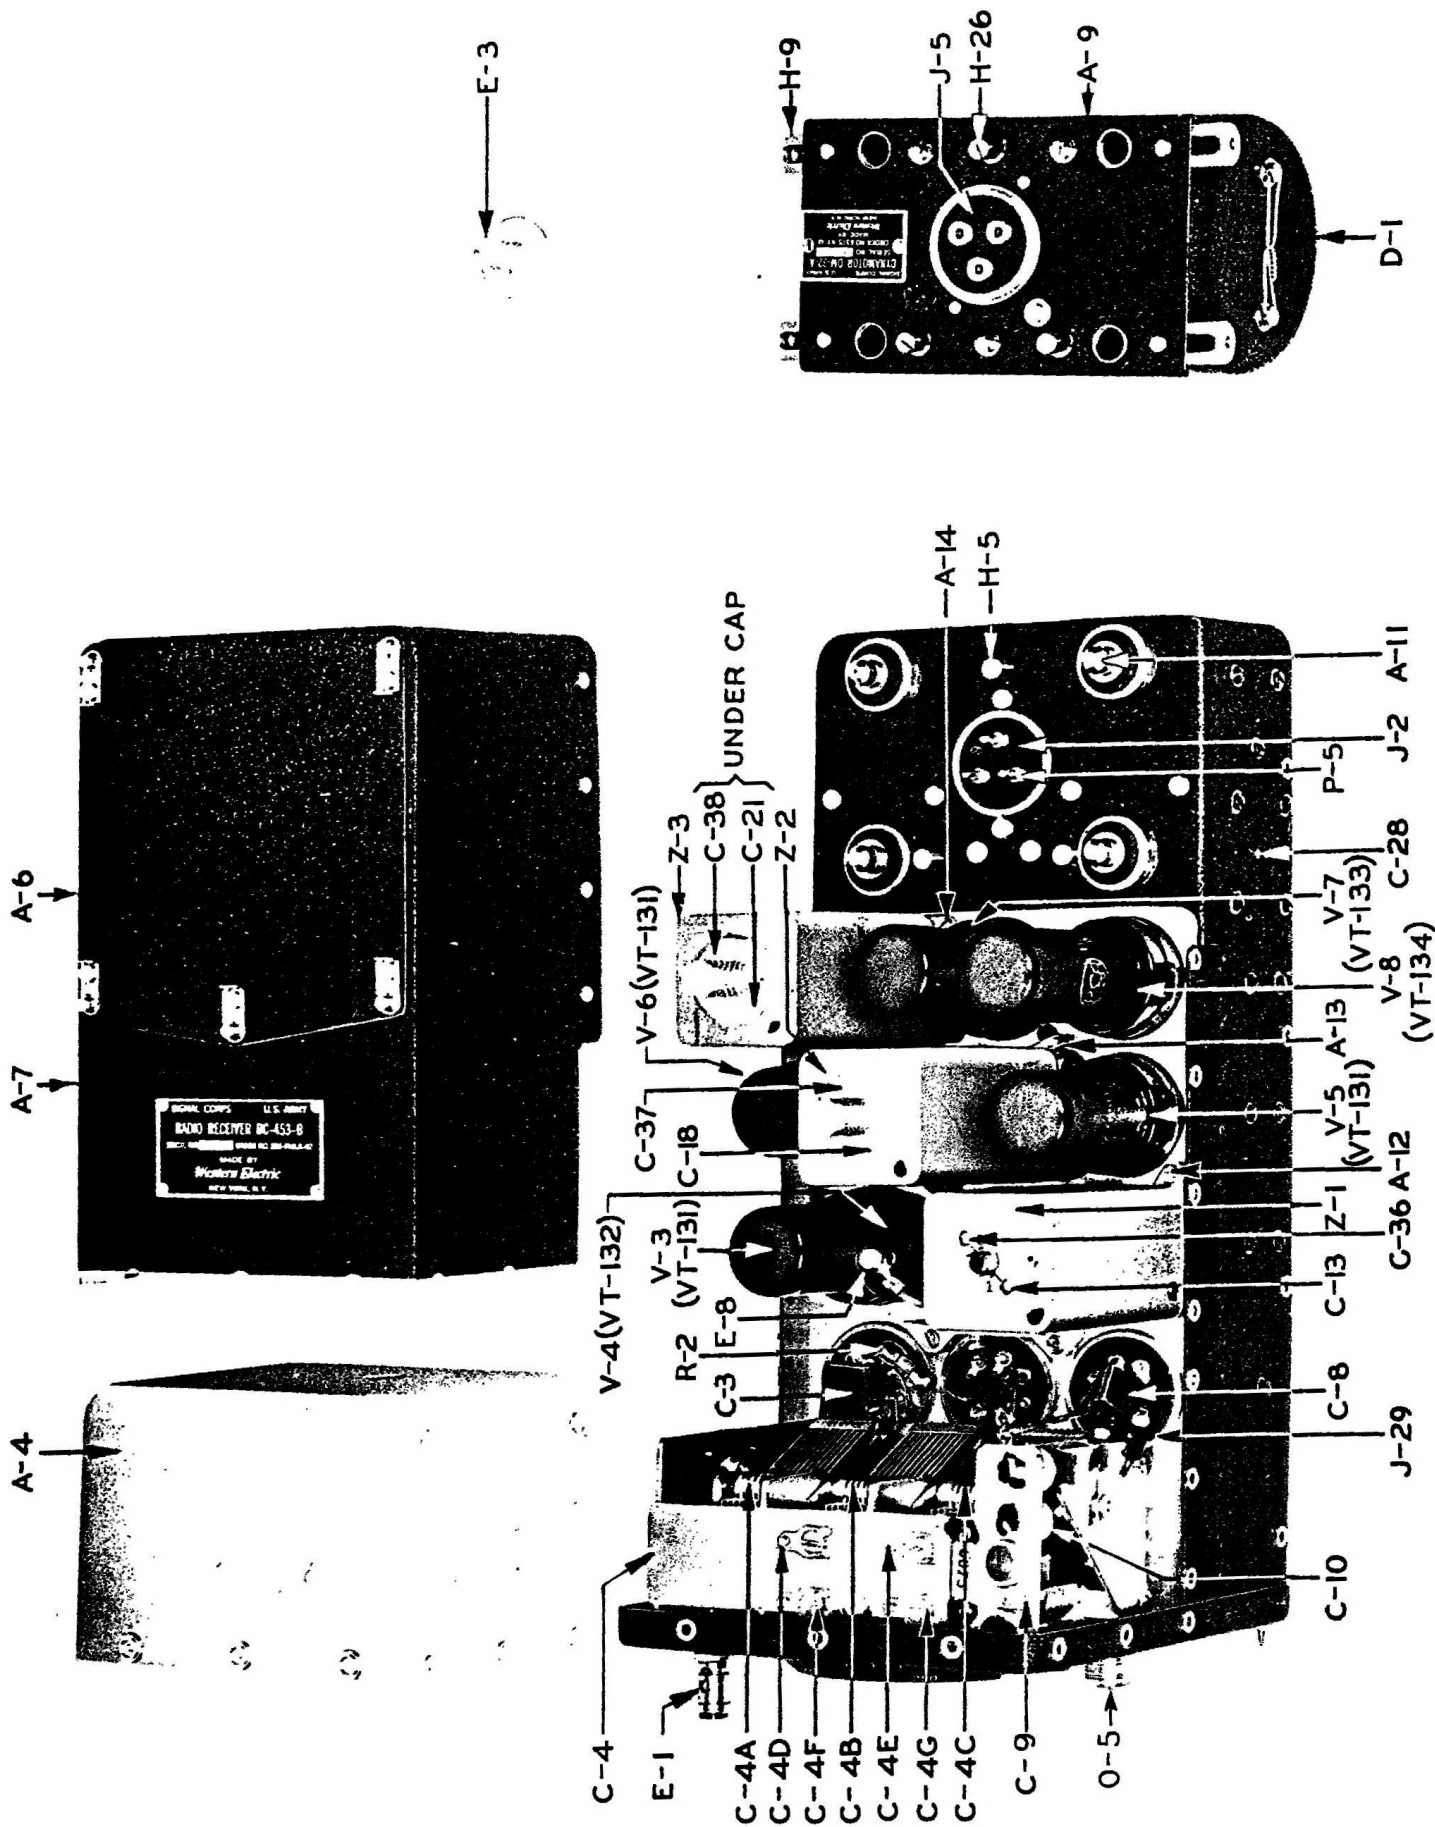

FIGURE 3—TYPICAL RADIO RECEIVER, TOP INSIDE VIEW, AND BOTTOM VIEW OF DYNAMOTOR DM-32-A
(7) The intermediate frequency (i-f) part of these receivers consists of three i-f coupling units, Z-1, Z-2 and Z-3 (Figure 3), following the V-4 (Tube VT-132) mixer tube, V-5 (Tube VT-131) first i-f amplifier tube and the V-6 (Tube VT-131) second i-f amplifier tube, respectively. In Radio Receivers BC-453-A (or -B) and BC-454-A (or -B), each i-f coupling unit contains two tuned circuits which are magnetically coupled. Z-1 which is representative of the three coupling units consists of coils L-6 and L-7, fixed tuning capacitors C-12 and C-14 and trimming tuning capacitors C-13 and C-36. The coils and capacitors are designed so that each circuit may be tuned precisely to the intermediate frequency. In Radio Receiver BC-453-A (or -B), the magnetic coupling between the coils in each i-f coupling unit is adjustable to either of two values, namely, an over-coupled value (bakelite rod, protruding through the top of the i-f coupling unit, "down") or an under-coupled value (bakelite rod up). The position for these rods during alignment is up, but for operation, the rod of the second i-f coupling unit Z-2 remains up while those of Z-1 and Z-3 must be down. With the couplings so adjusted, a flat-top selectivity curve is obtained, accompanied by better audio fidelity up to 2000 cycles per second. The selectivity 10 kilocycles or more away from resonance is little affected by the position of these rods. The magnetic coupling between coils in Z-1, Z-2 and Z-3 of Radio Receiver BC-454-A (or -B) is fixed.
(8) There is but one tuned circuit in each of the i-f coupling units of Radio Receiver BC-455-A (or -B). Each of these tuned circuits consists of a coil (for example L-6 in Z-1) with fixed tuning capacitor C-12 and trimming tuning capacitor C-13. The single i-f tuned circuit is capacitively coupled (for example C-14 in Z-1) to the following vacuum tube input circuit. L-7, L-9 and L-11 act only as r-f chokes.
(9) The rotors of trimming capacitors C-13, C-18 and C-21 are grounded, but the rotors of trimming capacitors C-36, C-37 and C-38 (reached through